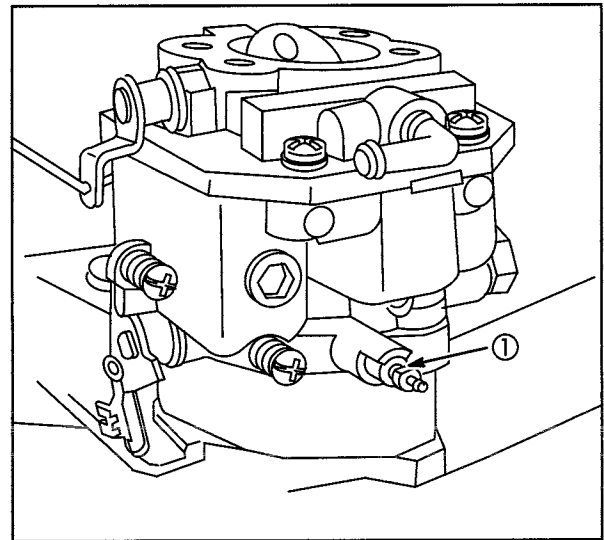

Fig. 7
1. Turn idle mixture screw (1), Fig. 7, **CLOCKWISE** until it just seats. **DO NOT FORCE**.